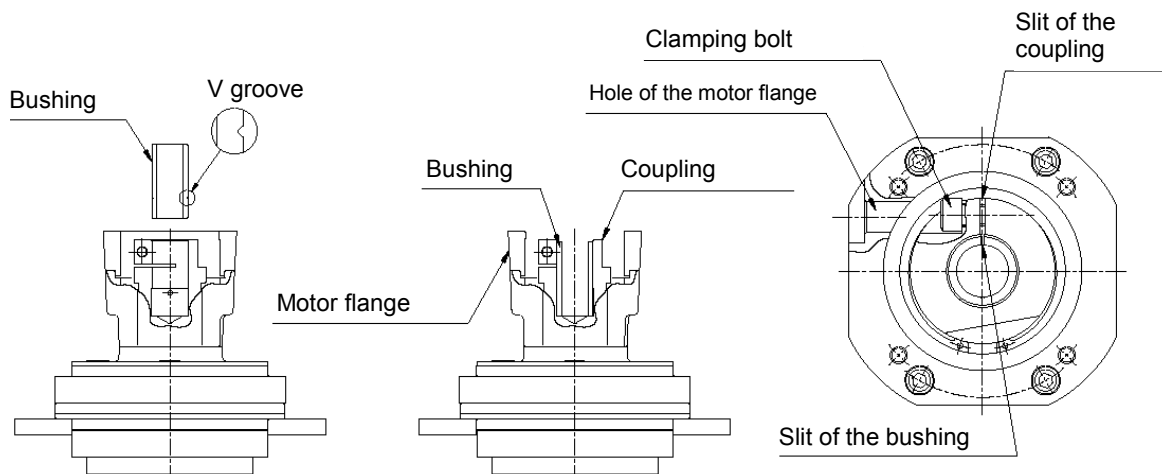

Fig. 5-7
Note: Clamping bolt (Refer to Fig. 5-7.)
- When inserting the bushing, align the slit of the bushing and the slit of the coupling. (See Fig. 5-7 for the positional relationship between the bushing and coupling.)